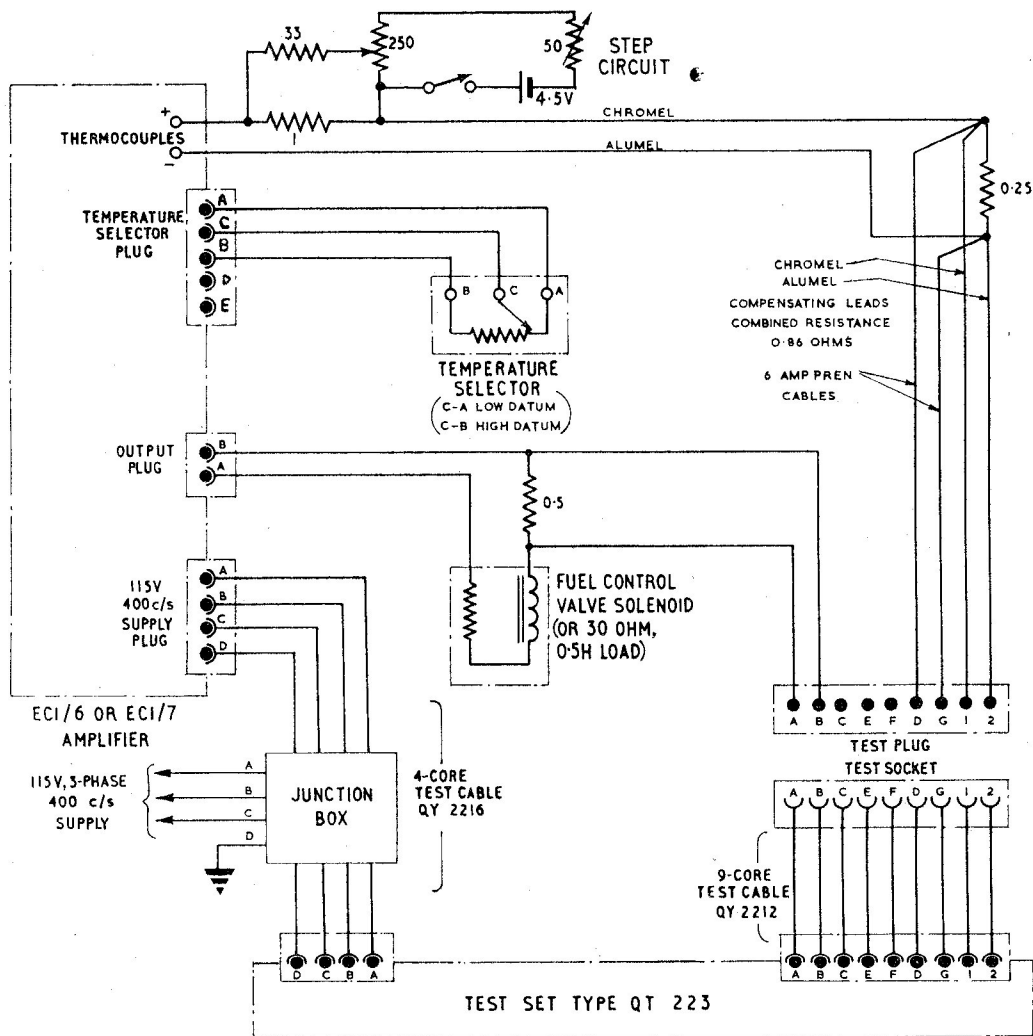

Fig. 4. Bench test circuit
- (1) Test set, Ultra, Type QT223.
- (2) Nine-core test cable, Type QY2212.
- (3) Four-core test cable, Type QY2216.
- (4) A bench test rig made up as shown in fig. 4.
- (5) A 115V 3-phase, 400 c/s, supply.
- (6) Stop watch.
- (7) Temperature selector plug.
connect the commoning terminals to the test plug, similar leads must be used in the test rig. These leads must be made from Chromel and Alumel as shown in *fig. 4*.
(1) Adjust the temp. signal controls to give 350mA (true reading) on METER II.
(2) Switch in Step Circuit (fig. 4) and adjust Step Circuit control potentiometers to reduce METER II reading to 50mA (true reading).